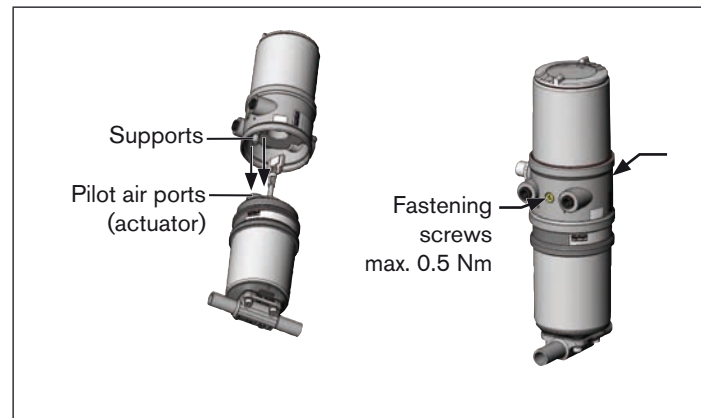

Fig. 6: Installation of positioner, 2103 and 23xx series
2. the supports of the positioner can be inserted into the pilot air ports of the actuator (see also "Fig. 6").